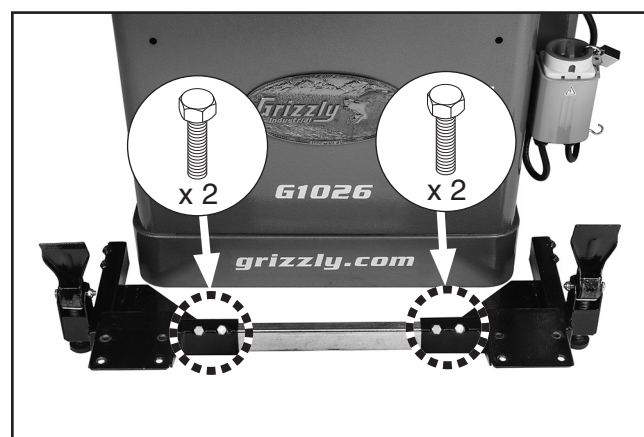

Figure 15. Rail secured to corner brackets.
4. Secure each end of rail to corner brackets with (2) M8-1.25 x 16 hex bolts, as shown in **Figure 15**.